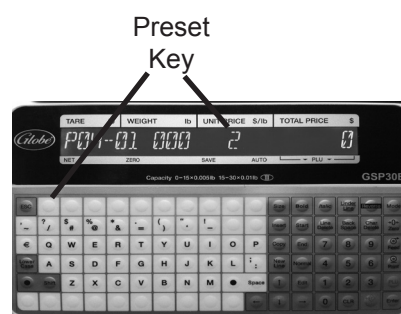

Figure 12-4
6. Press the desired preset key. See Figure 12-4.